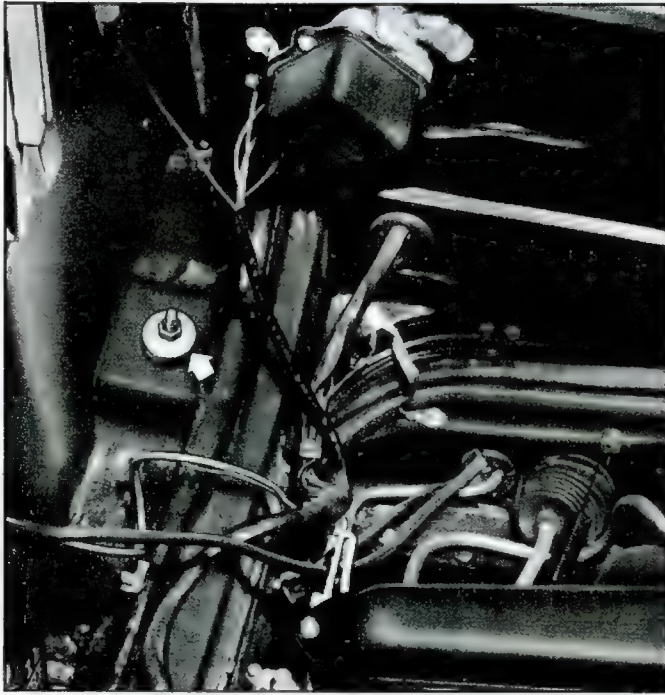

Fig. 75—Shock Absorber Upper Attachment Location
1. Raise engine compartment lid and remove shock absorber upper attaching nut, retainer and grommet (fig. 75).